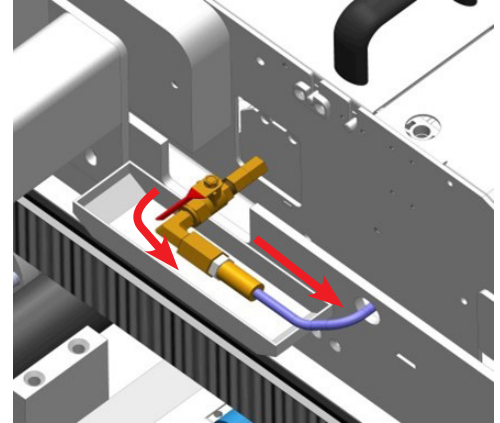

Figure 50: Water Disconnect
3. Turn off flow of water by turning valve until it is perpendicular to flow of water and remove quick-disconnect to allow removal of water pot, (refer to Figure 50).